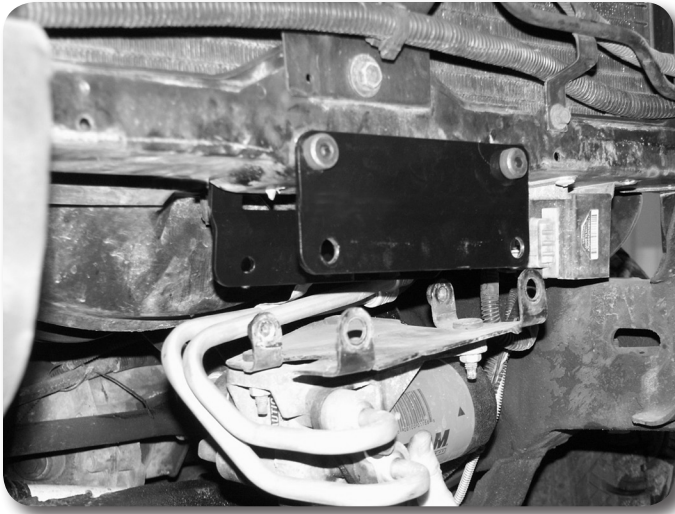

Figure 35
79. **V6 Engine Only:** Install the oil filter relocation brackets to the original mounting holes in the core support with the provided 3/8" x 4" bolts, 1/2" x 2.970" round steel sleeves, nuts and 3/8" USS washers. The front bracket is flat and the rear bracket should bend forward with the notch to the passenger's side of the vehicle fitting over the new radiator shroud bracket **Figure 35**. The lower holes will be offset to the driver's side. Leave bolts loose.